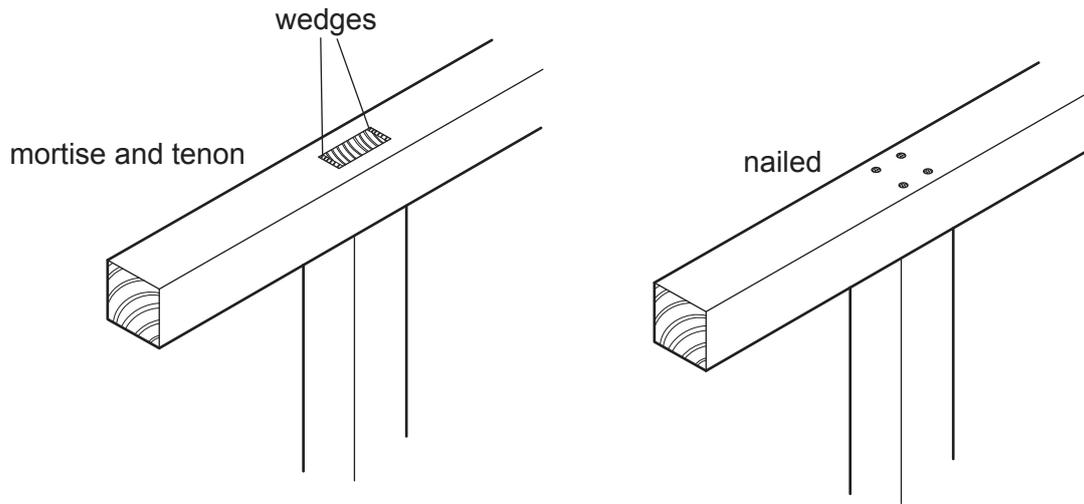

Fig. 10.3
- (iii) Fig. 10.3 shows two joints that could be used in the timber framed building. Explain why the mortise and tenon joint will be a better choice than a nailed joint.